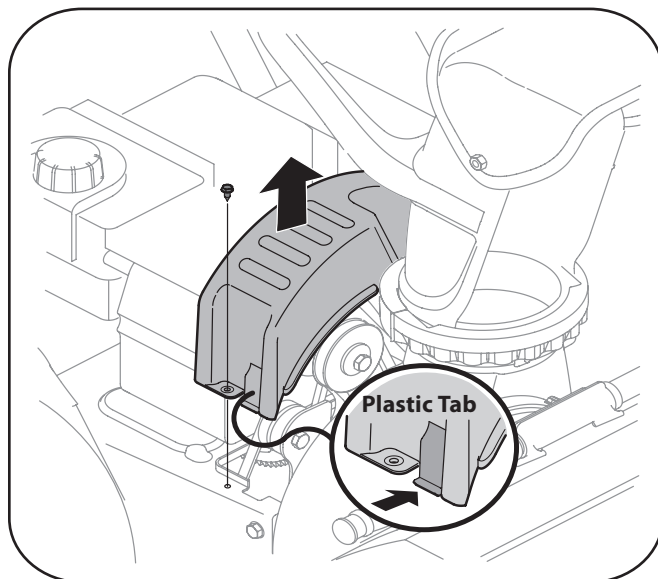

Figure 7-1
1. Remove the plastic belt cover on the front of the engine by removing the self-tapping screw and pressing the plastic tabs to release the belt cover. See Fig. 7-1 in the Service section of this manual.
3. Remove the self-tapping screw shown in Fig. 7-1, and press the plastic tabs to release the belt cover. Pull the belt cover up and out from around the engine and chute assembly. Set it aside and save.